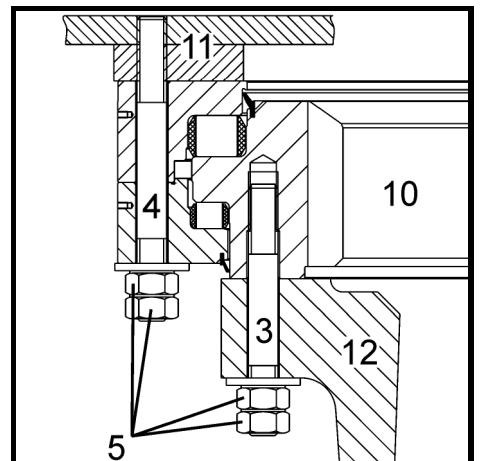

Fig. 49
The stud bolts M36 (Fig. 49, pos. 4) for the mounting of the swing ring 10 to the uppercarriage 11 must be tensioned to 570 kN. The stud bolts M36 (pos. 3) for the mounting of the swing ring 10 to the undercarriage 12 must be tensioned to 570 kN. Tighten the protection nuts 5 on the bolts 3 and 4 between 500 and 1000 Nm.